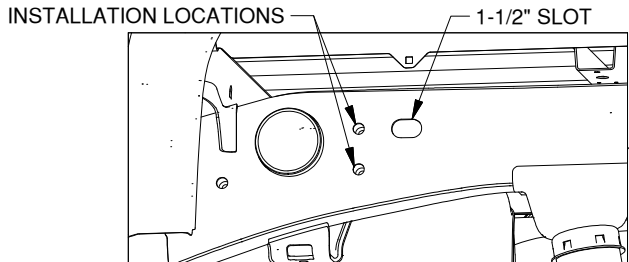

Figure F1: View looking into driver side wheel well.
1. **Prepare for hardware installation.** Start by locating four 1/2" x 2" carriage bolts, two locking straps, four bolt retainers, and four fish wires. Identify the two hole locations on the outside of the frame where the bolts will install, as shown in Figure F1.